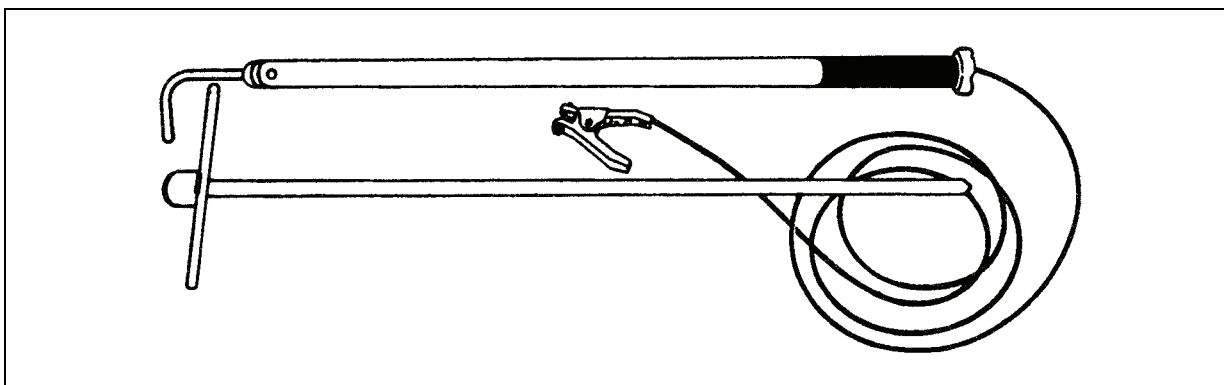

Figure 3-2. Manufactured Static Discharge Wand
- **Static Discharge Wand.** To avoid the possibility of a static electric shock, ground crewmen use discharge wands (field expedient and manufactured) to ground the cargo hook. Since these wands connect the helicopter to the ground, the static electric charge is dissipated and the hookup man will not receive a shock when he connects the apex fitting to the cargo hook. Figure 3-2 shows a manufactured static discharge wand. This wand may be ordered through supply procedures. Appendix D, page D-1, provides instructions, materials list, and a diagram needed to fabricate a field expedient static discharge wand.